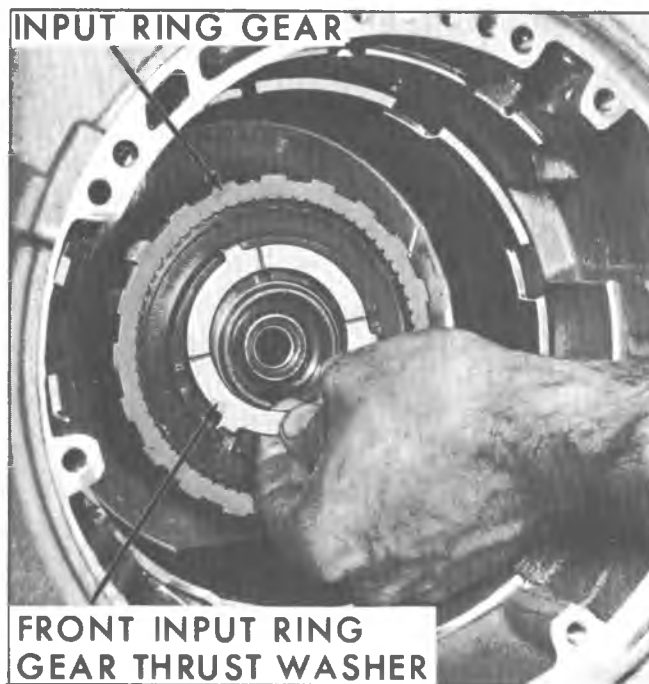

Fig. 7A-36B--Removing Input Ring Gear Front Thrust Washer
8. Remove input ring gear front thrust washer (fig. 7A-36B).